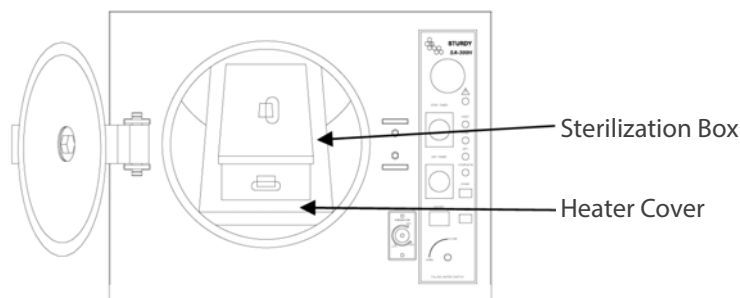

Fig. 6
D. Install the Sterilization Box as Figure 6. (standard accessory)